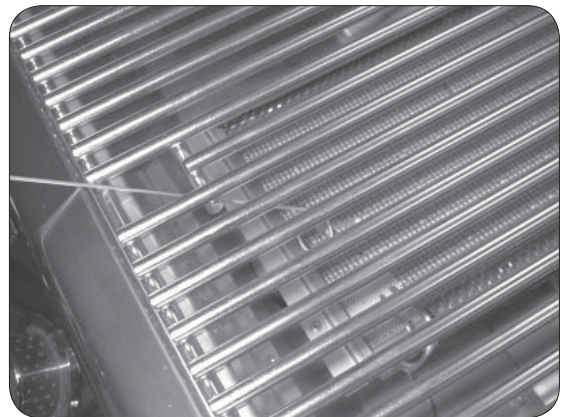

Fig. 11-3 - Manual lighting
2. Insert either a burning long-barrel butane lighter, a burning long-stem match, or a burning match held by a wire extension holder (Fig. 11-2) through the cooking grids to the burner (Fig. 11-3). For backburners, hold the flame against the perforated material of the backburner. For sideburners, hold the flame against the burner.
REMEMBER: FOR SAFE MANUAL LIGHTING, PLACE A BURNING MATCH OR BUTANE LIGHTER BESIDE THE BURNER - **THEN TURN ON THE GAS** (see Fig. 11-3).